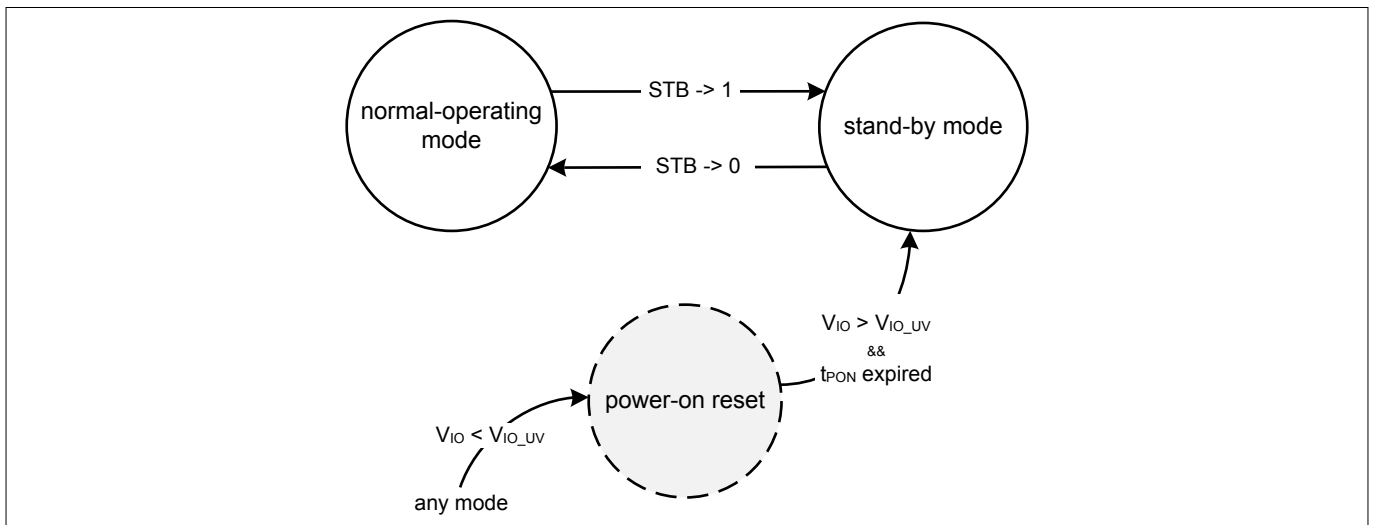

Figure 4 Mode state diagram
The TLE9254V supports two different modes of operation for each HS CAN channel (see Figure 4):
In normal-operating mode the TLE9254V sends and receives data from the HS CAN bus. All functions are active (see Figure 4):
- One channel of TLE9254V enters normal-operating mode after t_{Mode} , by setting the respective mode selection pin STB to "low" (see Figure 4).